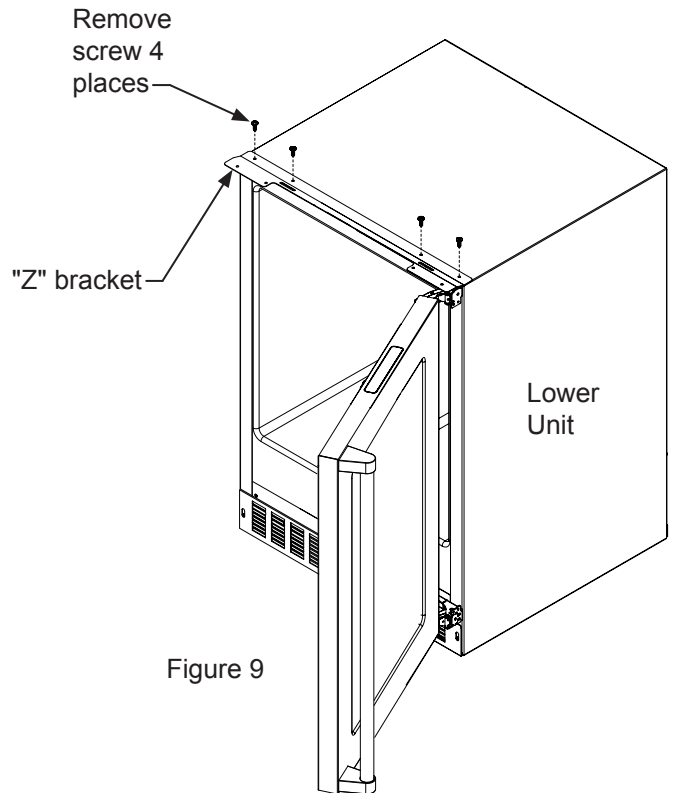

Figure 9
3. If the appliances have a "Z" bracket on the cabinet top (professional series models and Marvel overlay door models) **the "Z" bracket has to be removed from the lower unit, (see Figure 9).** To remove the "Z" bracket from these models remove the four (4) screws holding the bracket in place to the top of the cabinet with a philips screwdriver.